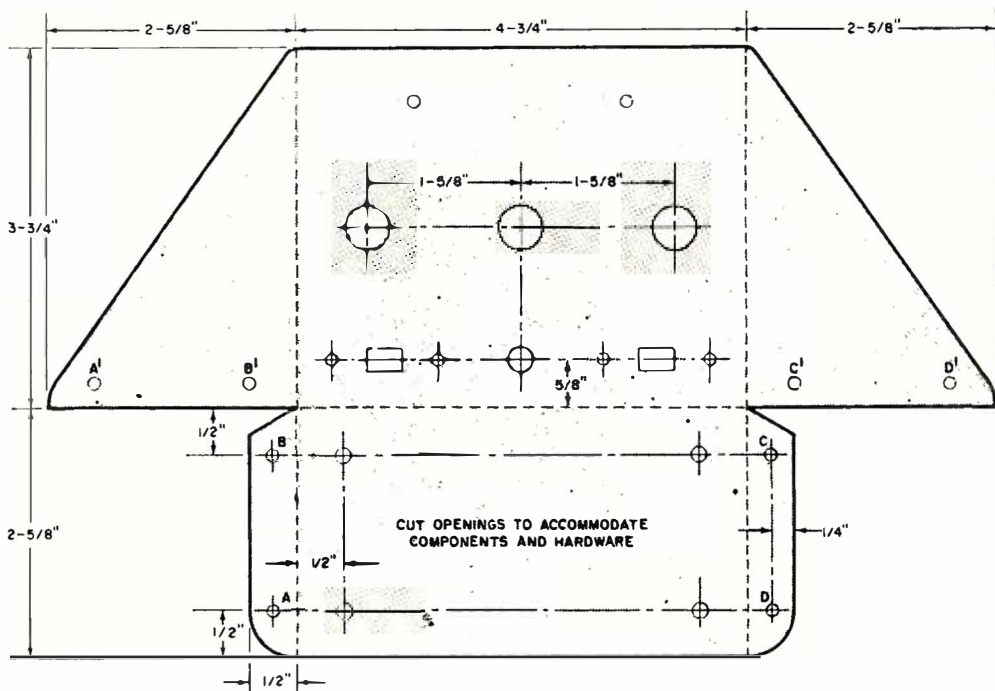

Fig. 3. Chassis can be formed from a thin piece of sheet aluminum. Drill and shape to size as shown.
**Construction.** Almost any type of chassis construction can be used to assemble the *Square Deal*. A deep-drawn aluminum case and a homemade aluminum chassis are shown in the photos. The chassis is a 10" x 63/8" x 3/16" piece of aluminum, cut, bent, and drilled as shown in Fig. 3.